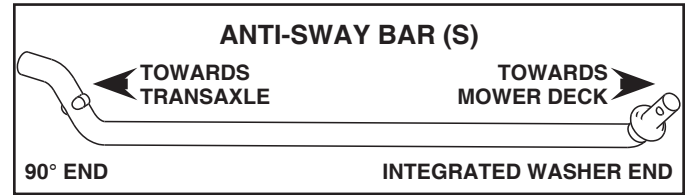

Fig. 7
5. INSTALL ANTI-SWAY BAR (S) (IF EQUIPPED) (See Fig. 7 - 9)